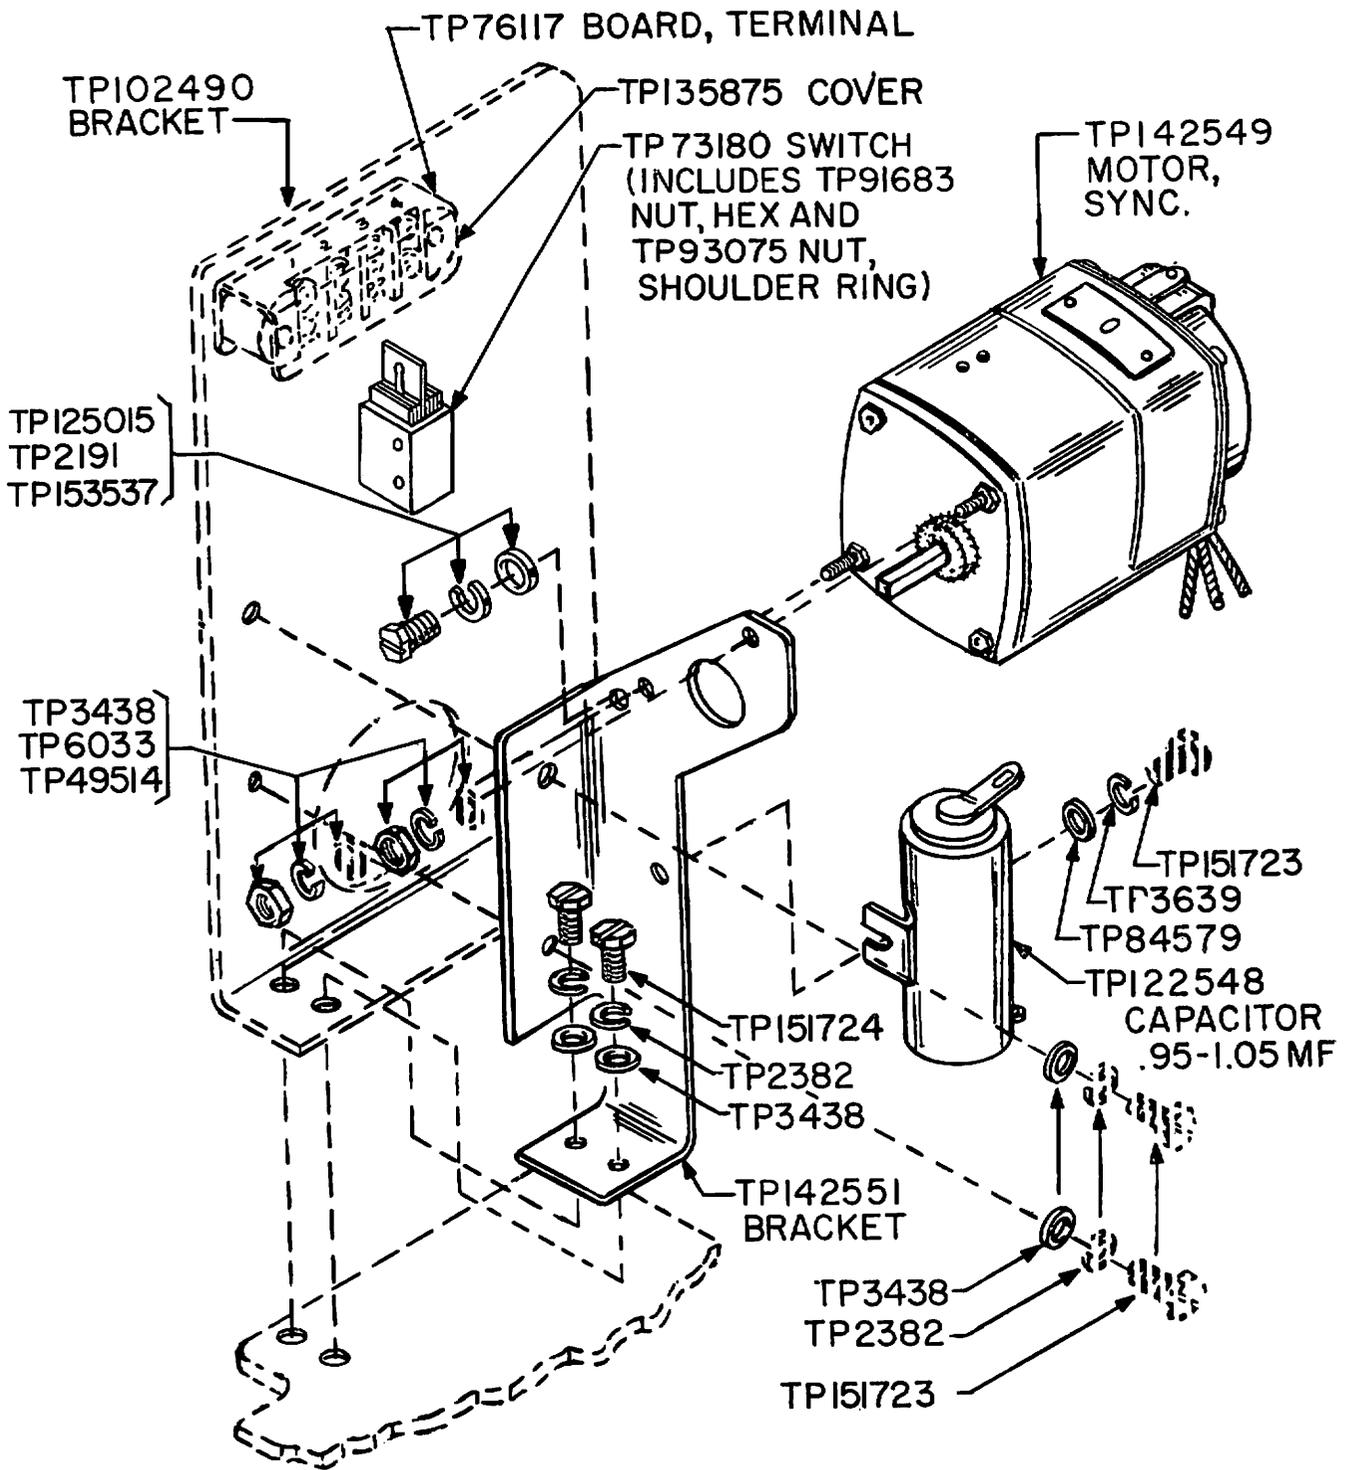

Figure 4 - TP136146 Modification Kit
2.11 TP136146 Modification Kit: To convert paper winders equipped with universal motors (15A through 15D) to operation by synchronous motors (15E or 15F). (See Figures 4 and 5.)
(d) Replace with the TP142556 three-conductor cord assembly. Connect the BLACK lead to the top No. 1 and the WHITE lead to the top No. 4 terminals. The GREEN lead terminal should be placed under the TP125015 flat washer of the TP153537 ground screw (Figure 4) or the nearest motor mounting screw.
Note: Refer to Figures 4 and 5 and also to the 15-type paper winder wiring arrangements.